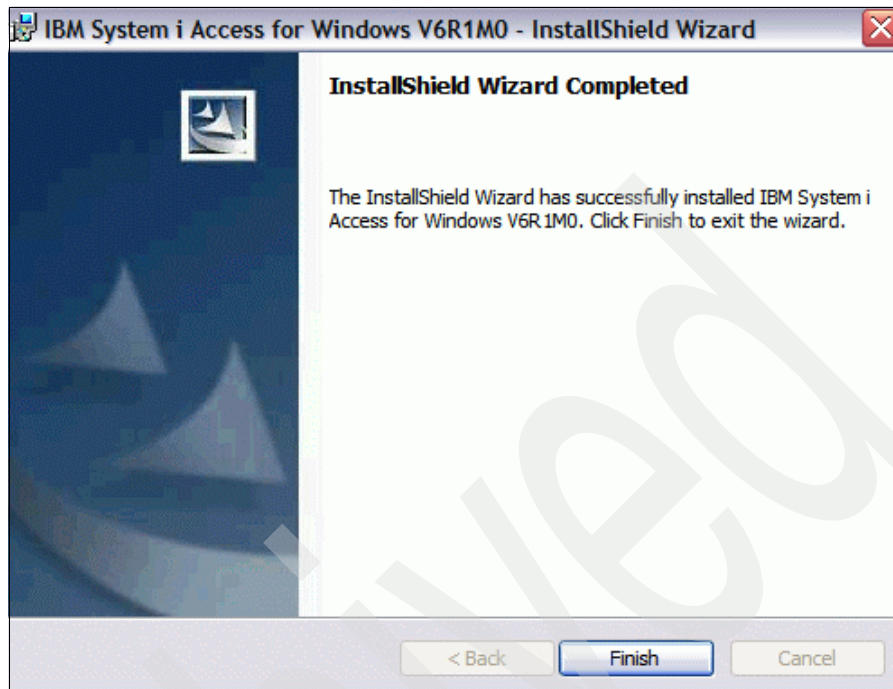

Figure 7-18 IBM System i Access for Windows installation completed
9. Figure 7-18 on page 262 indicates the installation process was successful.